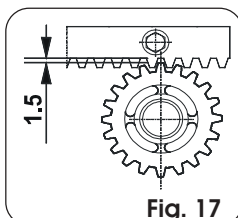

Fig. 17
- When the rack has been installed, to ensure it meshes correctly with the pinion, we advise you to lower the gearmotor position by about 1.5 mm (Fig. 17).